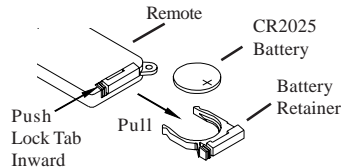

Fig. 1
- **Battery.** The battery is shipped inside the remote with an insulator between the battery and the contact. Before initial use, remove and discard the insulator. To replace the battery, open the battery compartment, pushing inward on the lock tab while pulling the battery retainer outward from the remote (See Fig. 1). Place the battery in the battery retainer, with the positive side up, and slide the retainer into the remote.